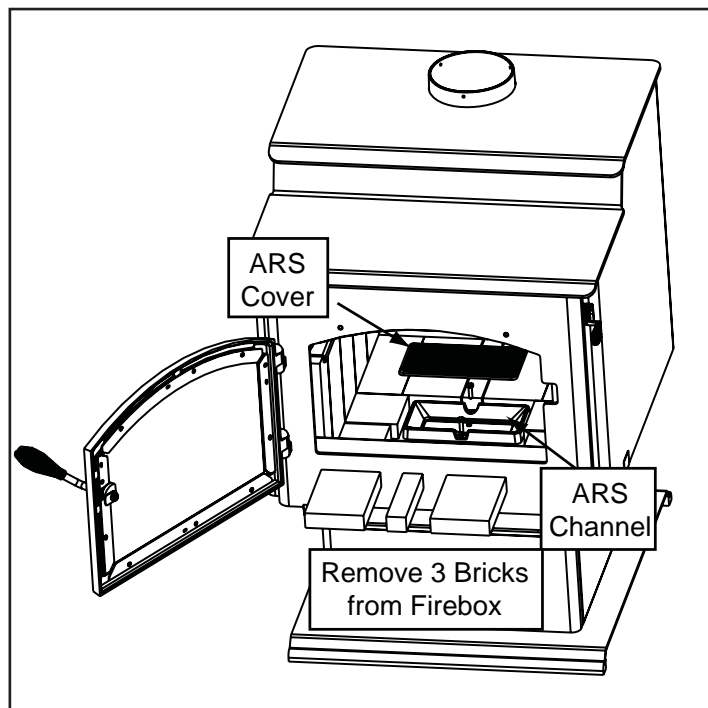

Figure 18.2
1. Re-install the ash grate channel and secure with 2 bolts previously removed. Set the ARS access cover and the 3 front cut bricks in place. **Figure 18.2.**
1. Follow steps 1 through 3 on **page 18**. See also **Figure 18.2**.